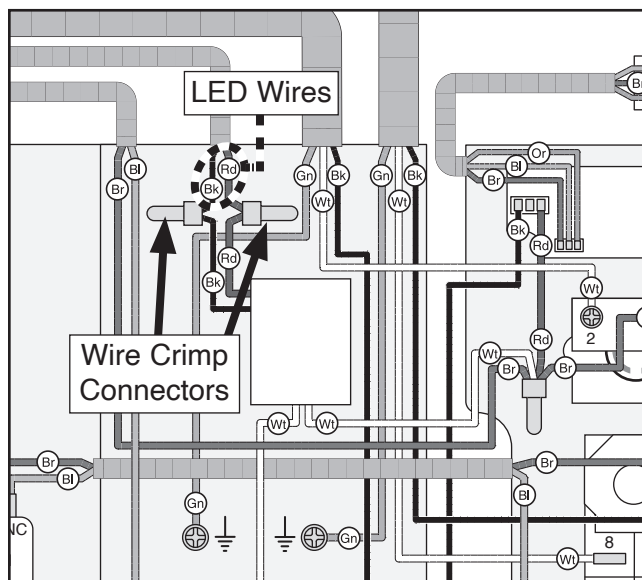

Figure 84. LED wiring.
10. Disconnect LED wires from wire crimp connectors shown in **Figure 84**, then tie string to end of LED wires to aid in installation of new LED.